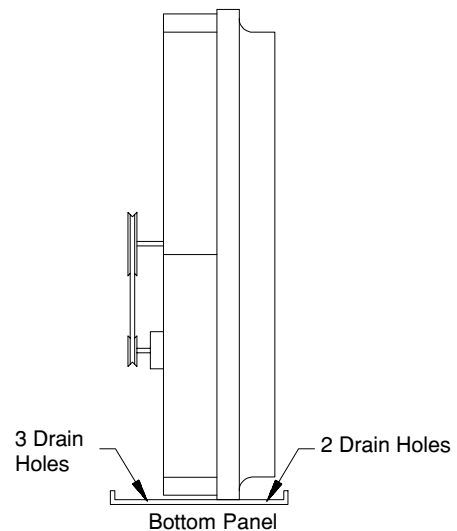

Figure 1
- 2) Find bottom panel of housing (with 5 large drain holes) and lay it on a flat surface. Place fan on bottom panel with 3 drain holes on intake side of fan and 2 drain holes on outlet side. *See Figure 1.*